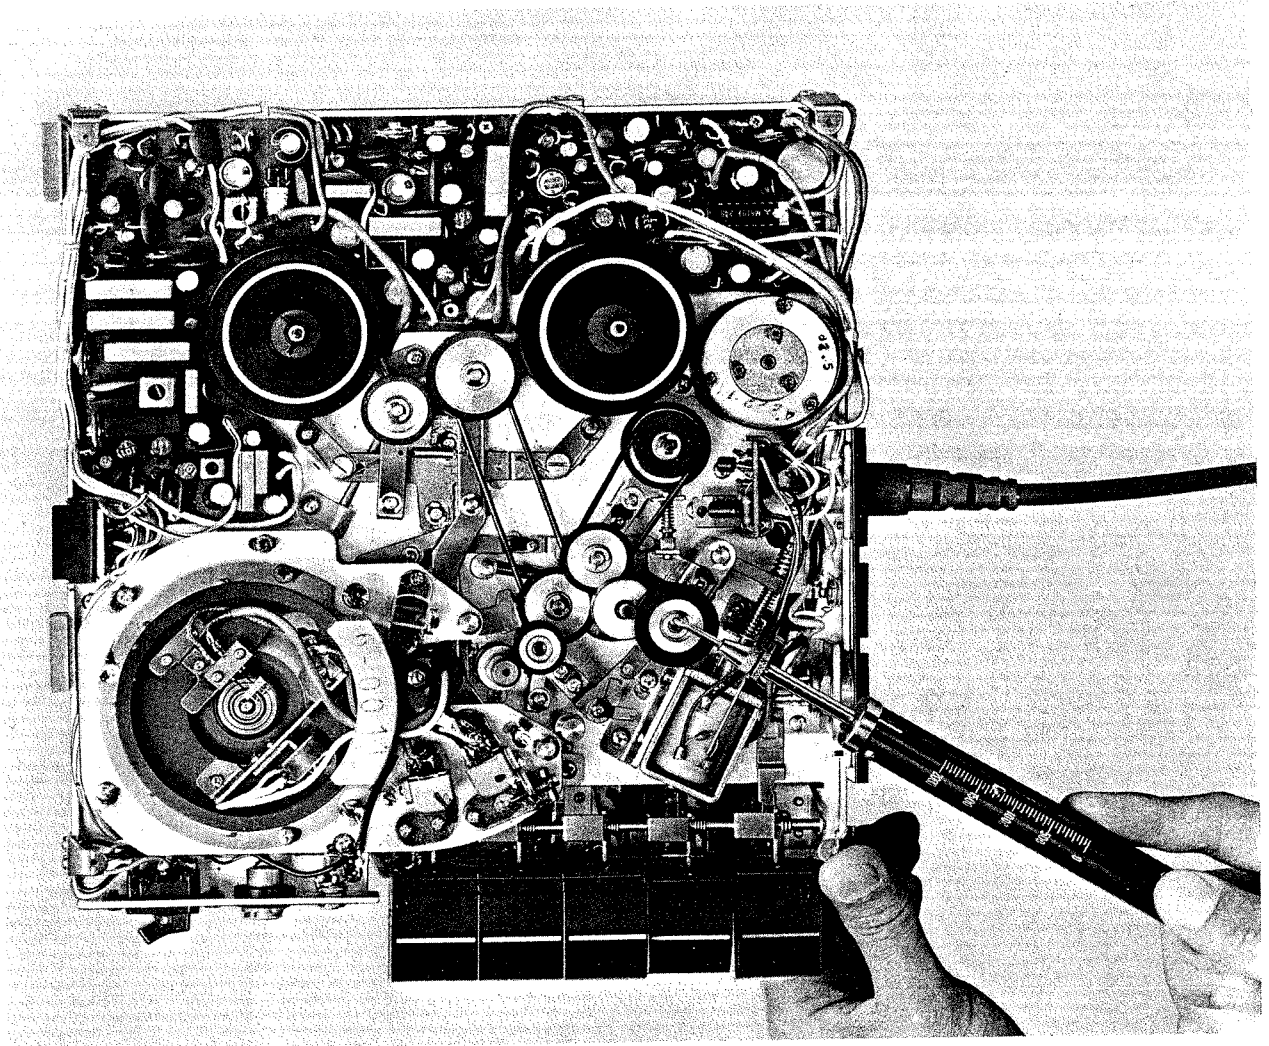

Fig. 1-32 Pinch Roller Pressure Measurement
(4) Pinch Roller Pressure Adjustment
- a) As shown in fig. 1-32, at playback mode, connect a 0 to 2000 gram spring gauge to Pinch Roller Shaft and measure Pinch Roller Pressure. The moment the rotating pinch roller is stopped, read value on spring gauge.